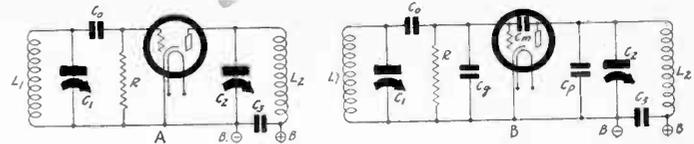

FIG. VIII-6
The tuned grid, tuned plate oscillator is shown in Fig. VIII-6, the circuit at (A) showing it in the usual form and that at (B) in the form it assumes when the tube capacities are explicitly indicated. In these drawings C_3 is supposed to be so large that its reactance is entirely negligible. C_o may or may not be so large that its reactance can be disregarded.